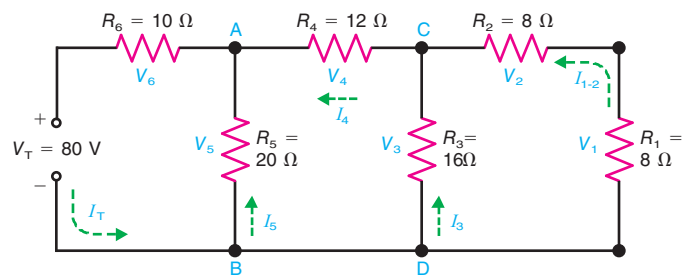

Figure 7-8 Finding all currents and voltages by calculating R_T and then I_T to find V_6 across R_6 in the main line.
- When parallel strings have series resistance in the main line, R_T must be calculated to find I_T , assuming no branch currents are known (see Fig. 7-8).
Solution for Figure 7-8
All answers for the solution of Fig. 7-8 are summarized below: